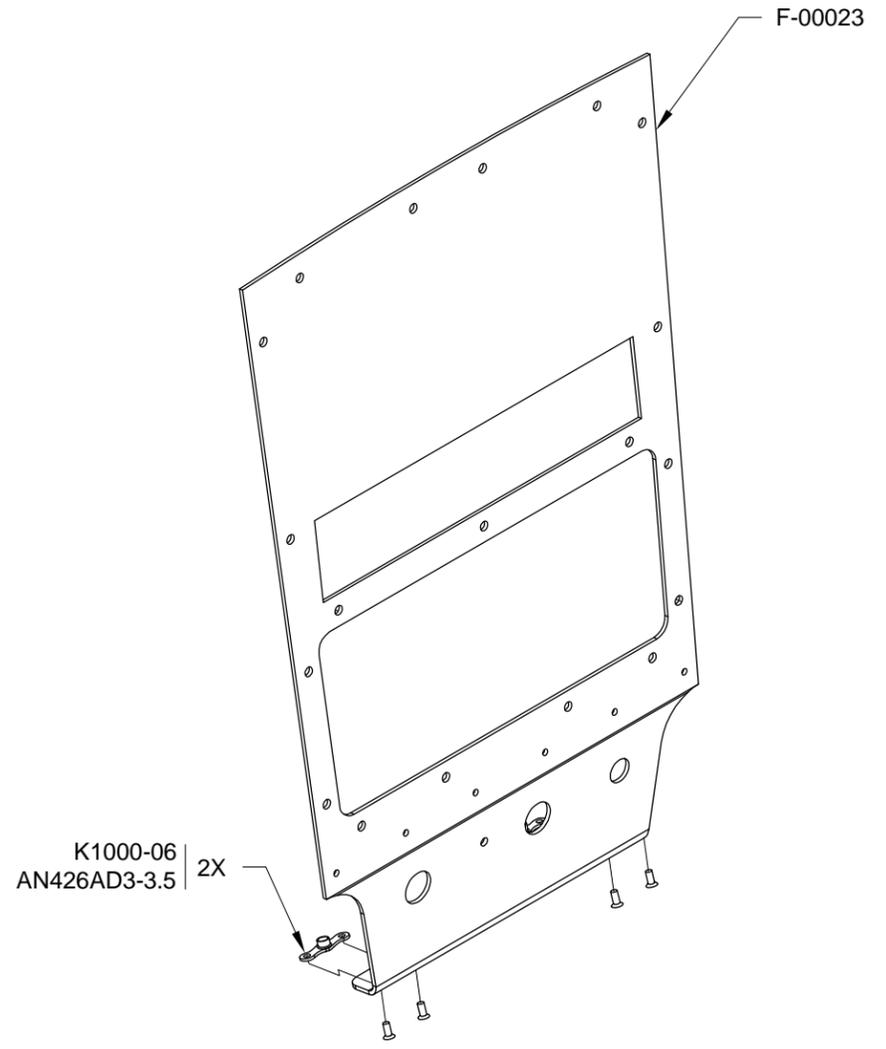

FIGURE 3: CENTER INSTRUMENT PANEL PREP
Step 3: Rivet two nutplates to the bottom of the F-00023 SV Center Inst Panel SL-40 as shown in Figure 3.